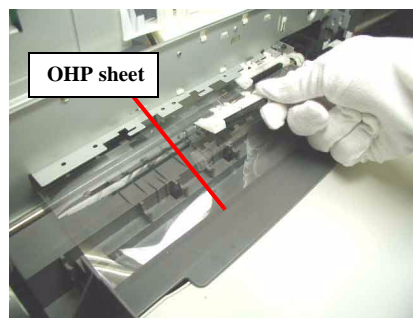

Figure 4-67. Paper guide removal procedure (2)
- Avoid to damage the coated surface of the PF roller by using the OHP sheet. (Refer to Figure 4-67)